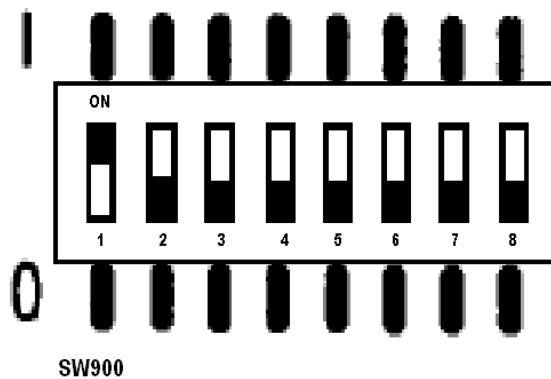

Figure 6.2 DIP Switch Pack (as pictured on PCB)
3. Place switch #1 in on position and power vent on. See Figure 6.2